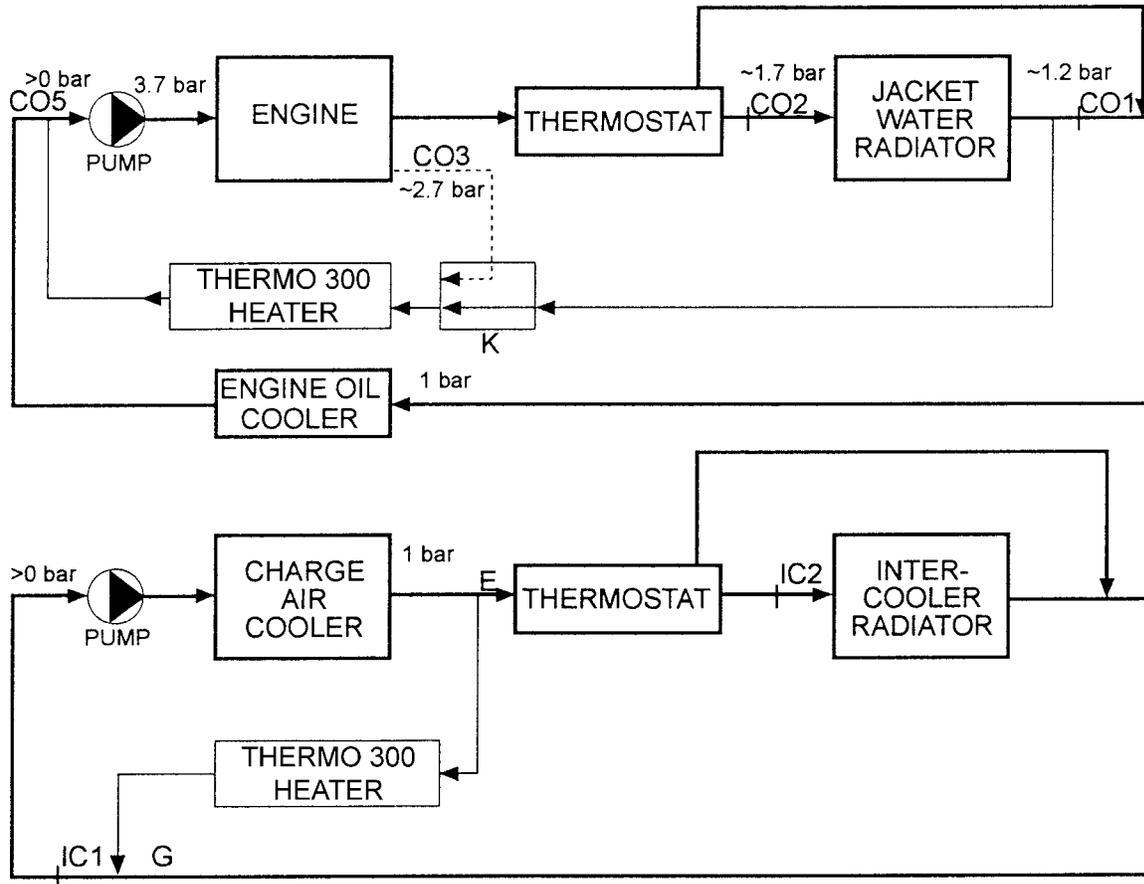

Fig. 5-1: Supplemental Heating Schematic
5.7.2 Supplemental Heating Schematic - Jacket Water and Intercooler Coolant Heaters (fig. 5-1)